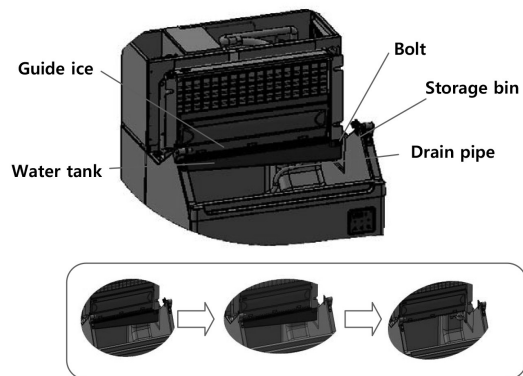

Fig 5
- 6) Add 8 oz. of Nu-Calgon ice machine cleaner into water tank. (see Fig 5) Machine will bring in fresh water after a 60 second time delay and then proceed to the clean cycle. 7) Control panel will now read 'Cln'.